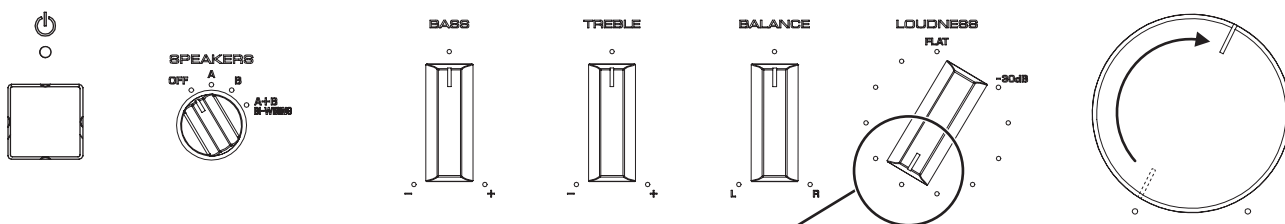

Fig. 9
- * When the "BASS", "TREBLE" and "BALANCE" knobs are set to their top positions and the "LOUDNESS" knob is set to "FLAT", the most recent protection function (the same as that indicated by turning the "BASS" knob) is indicated by the "⏻" (power) indicator. However, the "VOLUME" knob will not move at this time. The "VOLUME" knob will move if a protection history is selected with one of the knobs. (Fig. 9)
※ "BASS"、"TREBLE"、"BALANCE" ツマミが中央の位置にあり、"LOUDNESS" ツマミが "FLAT" の位置にある場合も "BASS" ツマミを回した時と同じ最新のプロテクション種類がパワーインジケータで表示されます。ただし、この場合 "VOLUME" ツマミは動作しません。各ツマミで履歴を選択した時に "VOLUME" ツマミは動作します。(Fig. 9)